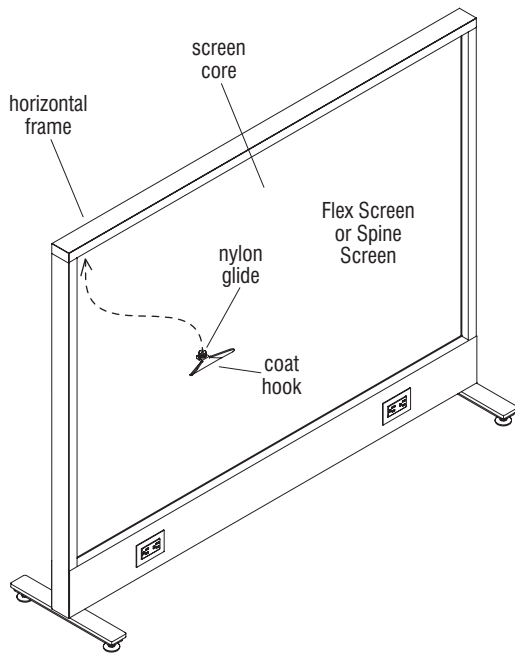

Figure 3
1. At the underside of each horizontal frame are two horizontal frame channels separated by the screen core. Determine the location the coat hook will mount to the frame, per the space-planning layout (Figure 3).
2. Locate the horizontal frame access holes at each end of the horizontal frame channel. Insert the nylon glide through one of the access holes and slide the coat hook towards the center of the screen. Tighten the screw on the underside of the nylon glide to hold the coat hook in place (Figures 3 & 4, Details E, F & G).